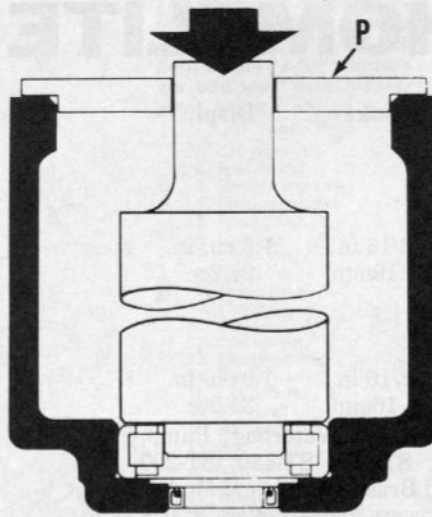

Fig. HL33-2 — Position aligning plate (P) 24895 as shown to center bearing installation tool 24893 when installing bearing in housing.
towards inside of housing. Using Homelite tool 24893, install bearings (22) in housing and cover (20). Solid ring of bearing cage must be away from tool. Align bearing installation tool when installing bearing in housing by placing plate 24895 over housing opening as shown in Fig. HL33-2. Press bearing inner races on eccentric shaft (23) so flange of race is towards eccentric. Lubricate oil seal (28) and install eccentric shaft in housing. Install "O" ring (21) on cover (20), install cover on housing and tighten cover retaining screws to 12-14 ft.-lbs. Apply Loctite to 1/4-20 screws, install new sealing washers on screws then thread screws into cover and housing and tighten to 33-38 in.-lbs. Install felt slingers (29), key (24), pulley (30) and bushing (31). Bushing must be flush with end of shaft. Install exciter housing on bottom plate (33) and tighten bolts to 150-175 ft.-lbs. Fill exciter housing with oil as outlined in LUBRICATION section. Install engine and upper deck (15). Install four isolators (17) and tighten bolts to 56-65 ft.-lbs. Install drive belt and adjust belt tension as outlined in BELT ADJUSTMENT section. Install belt guard and tighten bolts to 12-14 ft.-lbs.